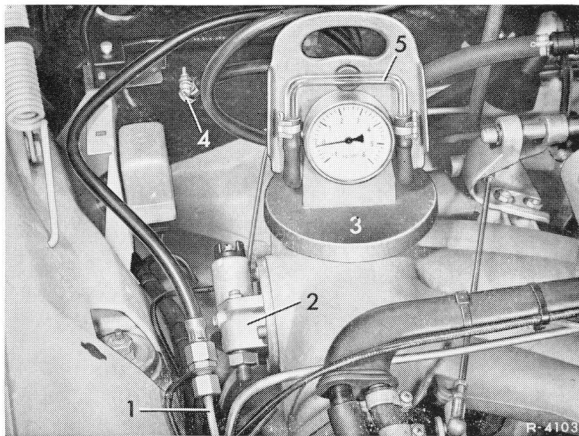

Fig. 07-14/24
lifting solenoid (12) with adjusting nut in such a manner that the idle travel "C" on the regulating rod is just cancelled (Fig. 07-14/22 and 23).
1 Measure delivery pressure by first disconnecting fuel line (1) on starting valve (2). Then connect delivery pump tester (3) to fuel line (1) and close other end (4) of tester hose (Fig. 07-14/24).
4 Measure delivery output. For this purpose, disconnect fuel return line (1) from damper container to return line and hold hose end into a measuring cup (2) (Fig. 07-14/25).